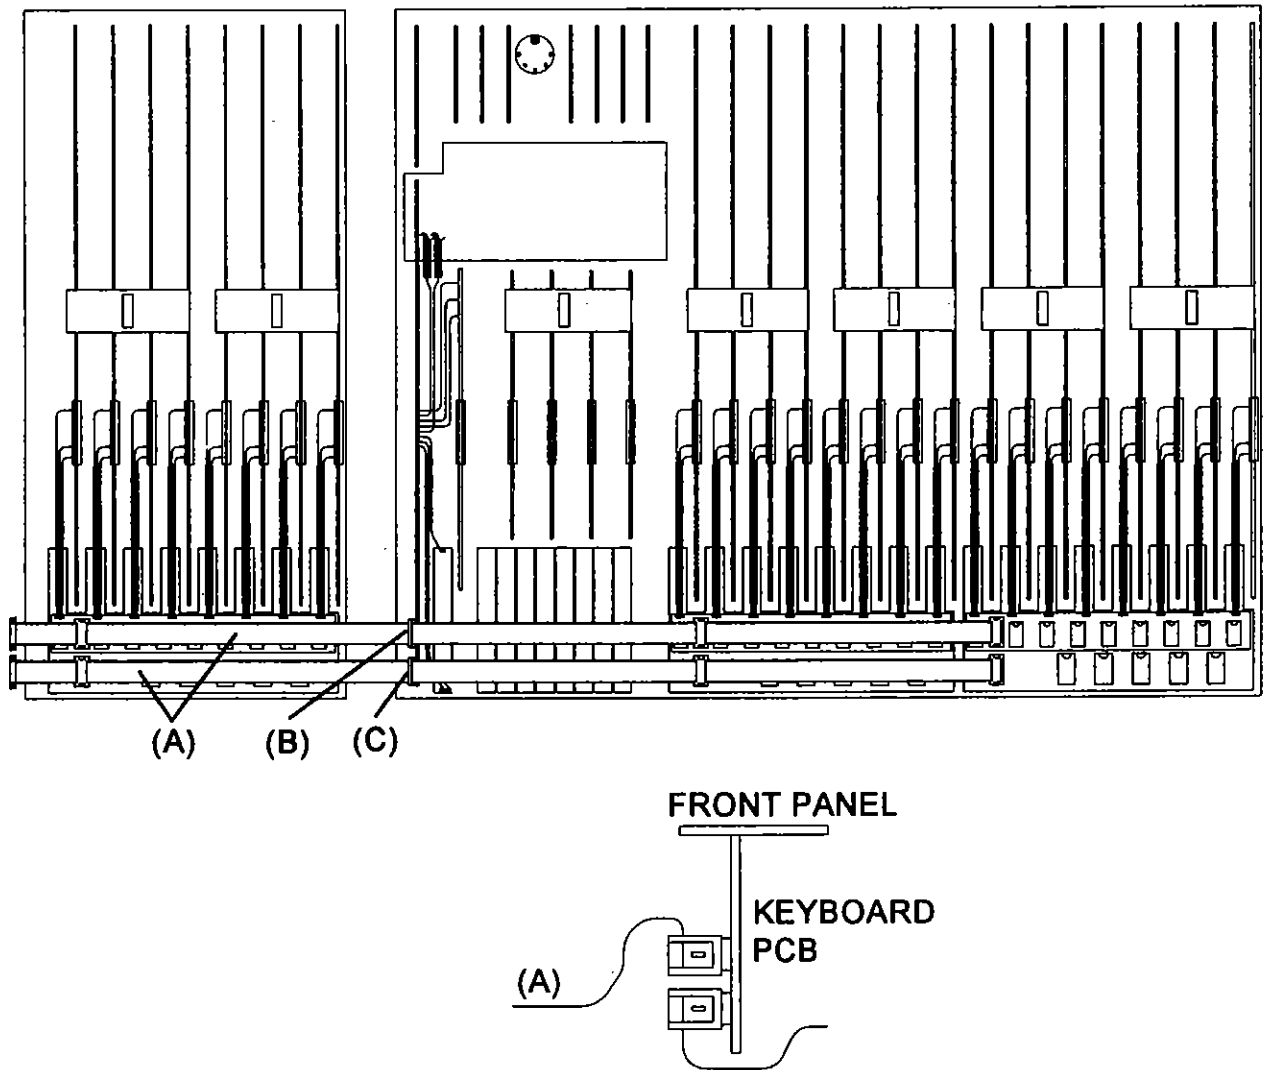

Fig. 18.
3. If you are upgrading a 24 or 32 Channel GS3 unpack the VCA Slave Expander harnesses (A) and fit them to CON6 (B) and CON7 (C) on the Keyboard PCB as shown. *see Fig. 18.*